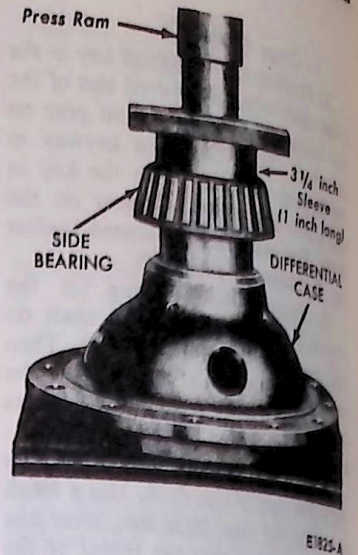

FIG. 27 Installing Differential Side Bearing
2. Install the differential side bearings, making sure they are properly seated (Fig. 27). Use a 3 1/4 inch sleeve about one inch long over the bearing race so that the thrust of the press ram is not against the bearing roller cage.